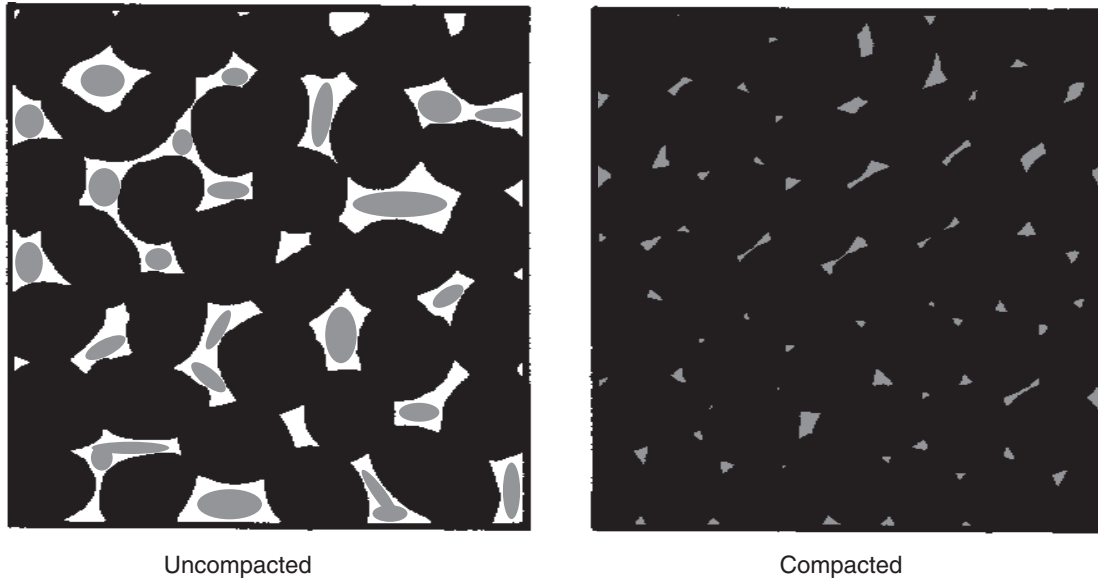

Figure 1. The effect of compaction on pore space. White space is air, gray areas represent moisture.
**Effect of compaction on porosity.** During compaction, soil aggregates are crushed and soil particles are packed closer together and literally squeeze out the pore space. Instead of the ideal 50 percent, compacted soils may have only 30 percent pore space. Larger pores that best carry air and water generally are lost first. As large pores collapse, smaller pores form, but they are less efficient. This leads to slower water infiltration and poorly aerated soils. Poor aeration limits root growth and nutrient uptake. Figure 1 illustrates the effects of compaction on pore space.